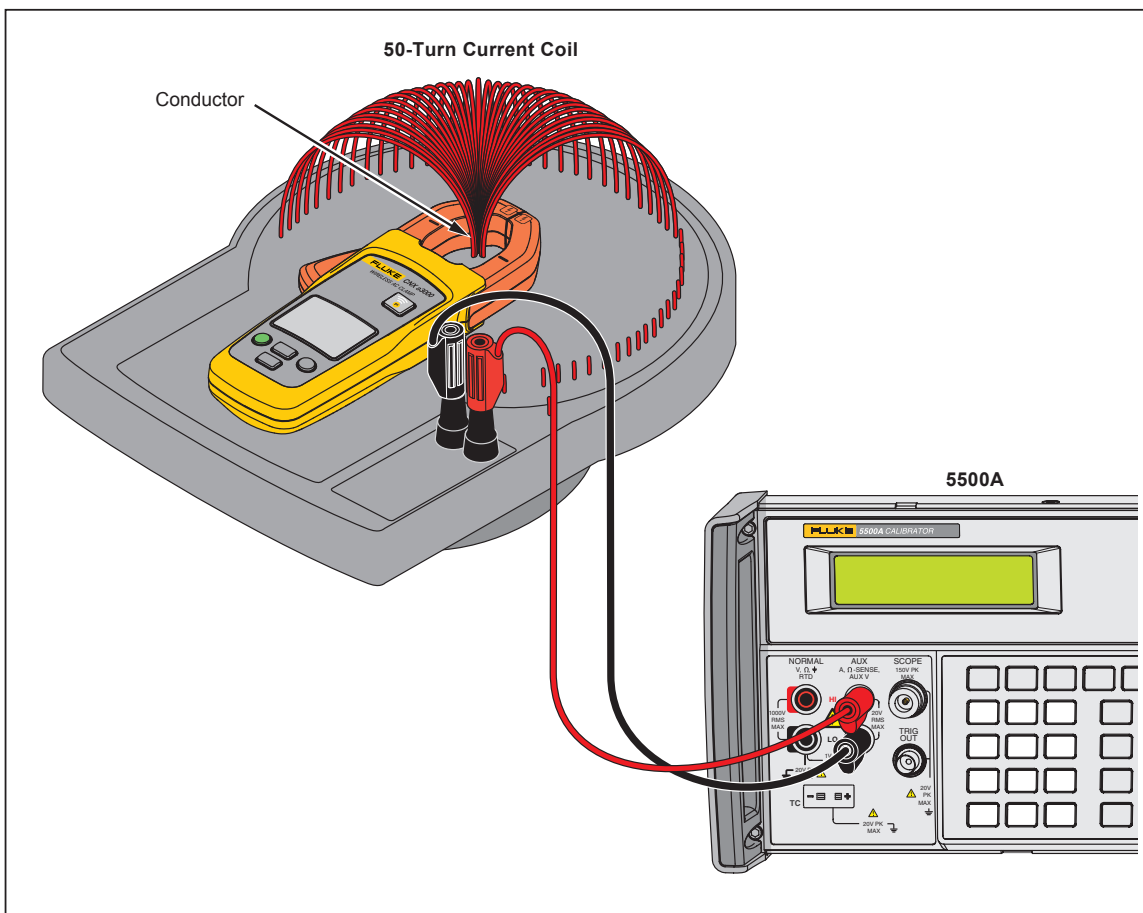

Figure 3. Performance Test Connections
1. Connect the Calibrator A ac output and ground to the 50-Turn Coil. See Figure 3.